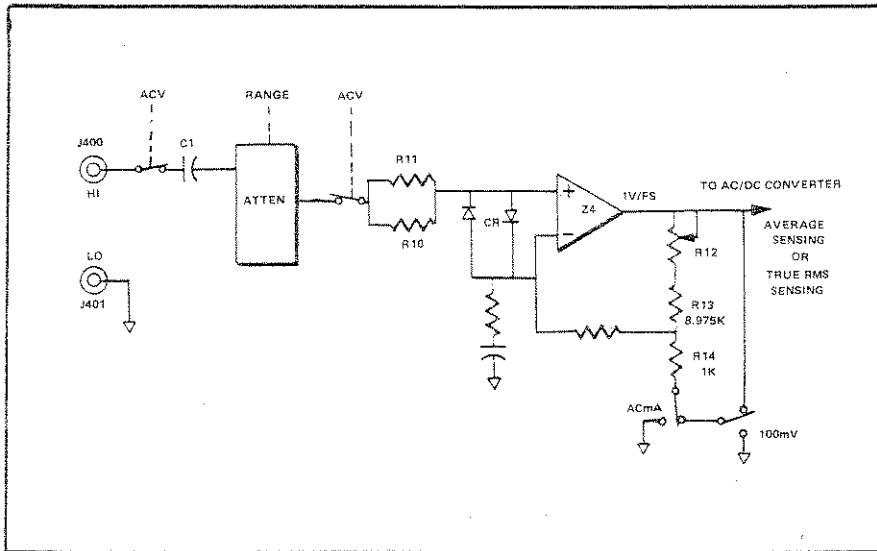

Fig. 4-3 Scaling the ACV Input to AC/DC Converter
4.3.3 ACV Signal Conditioning (Figures 4-3, 4-4, 4-5)